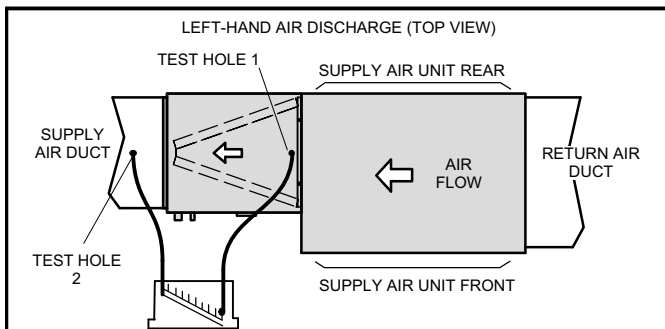

Figure 11. Static Pressure Test
A static pressure reading must be taken to see if the pressure drops are within the proper range. See figure 11 as an example to obtain an accurate reading.
To ensure accuracy, test the air on both sides of the coil. Refer to figure 11 for location of two test holes.
1. Drill a 5/16" test hole in the coil case 1" from the furnace flange (test hole 1, figure 11).
2. Drill a 5/16" test hole into the supply air duct (test hole 2, figure 11).